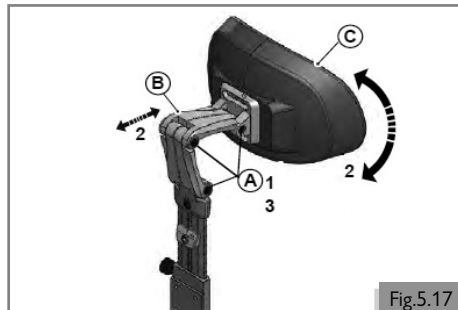

Fig.5.17
**Headrest position (Fig. 5.17)**
1. Loosen (A) by one turn.
3. Tighten (A). See section 8 for specified torque values.